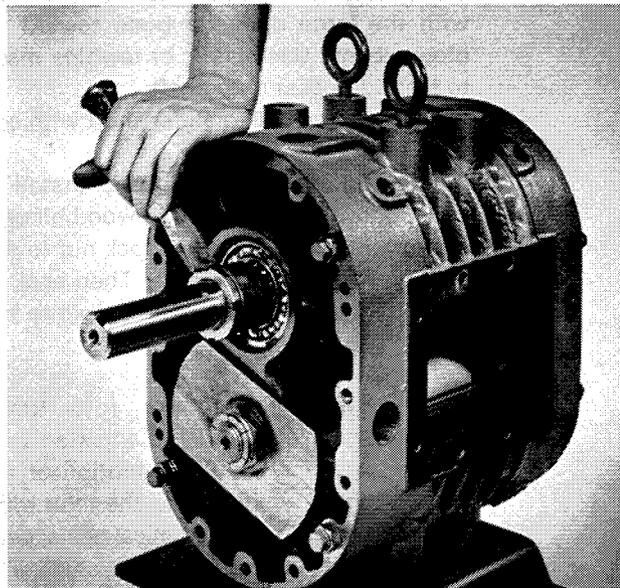

FIGURE 25
- punch, tighten lock nut sufficiently to compress shim stack (see Fig. 25).